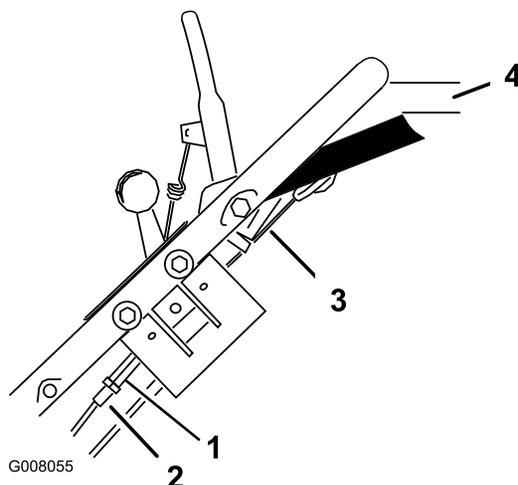

Figure 28
1. Loosen the nut that secures the adjuster (Figure 28).
2. Turn the adjuster until you remove the slack in the exposed cable (Figure 28).